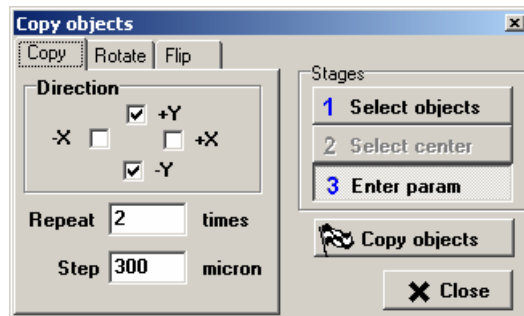

Fig. 13
- **Copy.** This operation represents translation of the selected objects in a vertical or horizontal direction. Simultaneous copying in several directions is available. The **Copy** tab includes the following elements (see Fig. 13):